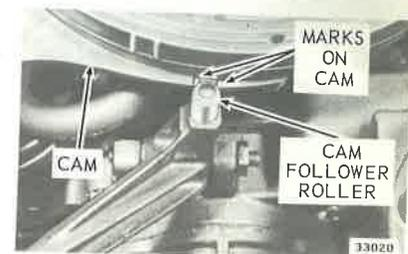

Figure 3-19. Throttle Cam Adjustment
b. To adjust throttle cam follower, advance throttle control to the position where the cam follower roller is centered between the two marks on the throttle cam. See Figure 3-19 (flywheel removed for photographic purposes only). At this point the throttle valve should be closed. If not, adjust as follows:
c. Advance throttle control to the position where the cam follower roller is centered between the two marks. See Figure 3-19.